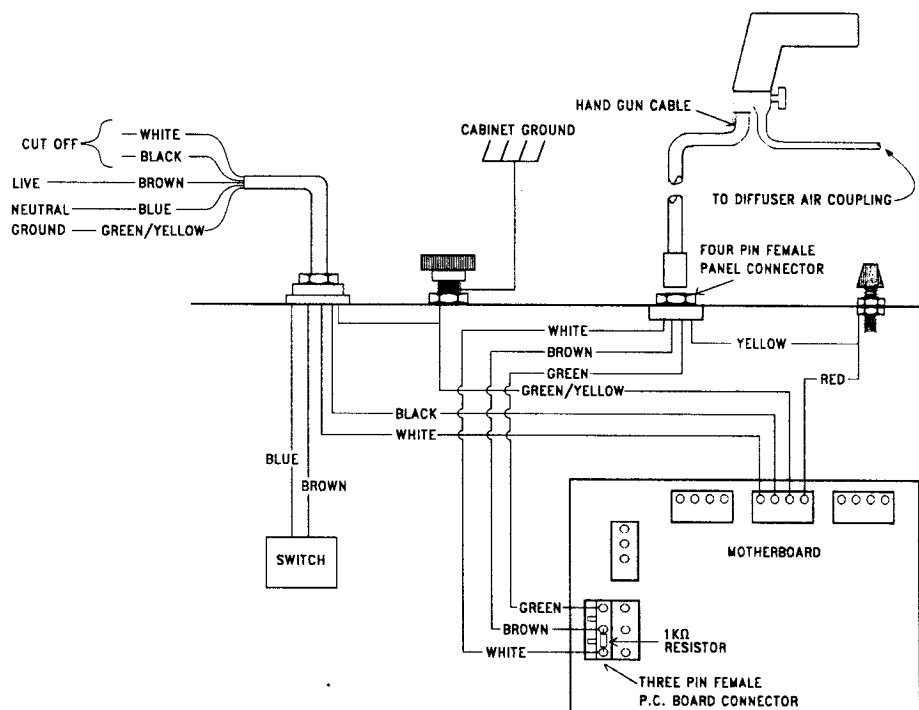

Figure 7 — Stand Alone Kit Installation (Handgun)
- b) Refer to Figure 7. Connect the green, brown, yellow, and white wires from the female four pin panel connector to the motherboard as shown.
- g) Install a green wire between the cabinet ground and the motherboard as shown in Figure 7.